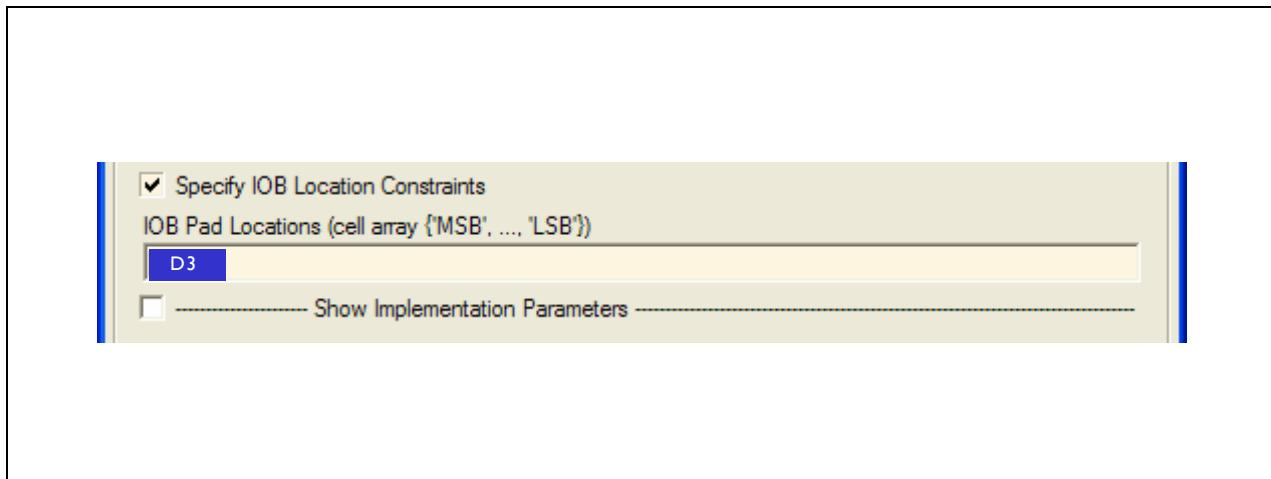

Figure 138: Trigger Pin Location
- Trigger Pin: Double click on the Trigger Gateway Out, select Specify IOB Location constraint and type in D3 as shown in Figure 138 on page 213.